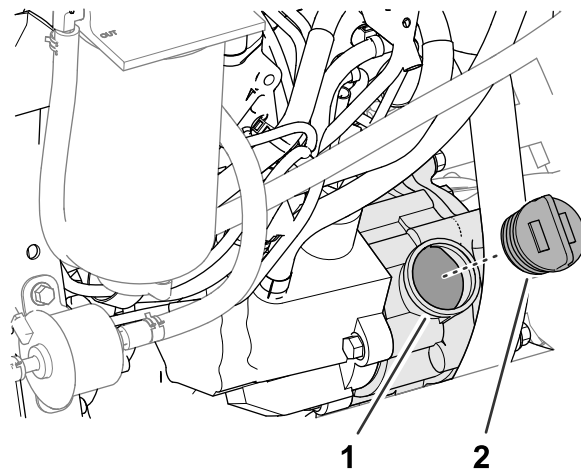

Figure 113
5. If the oil level is low, remove the oil-fill cap (Figure 113) and gradually add small amounts of oil, checking the level frequently, until the level reaches the Full mark on the dipstick.